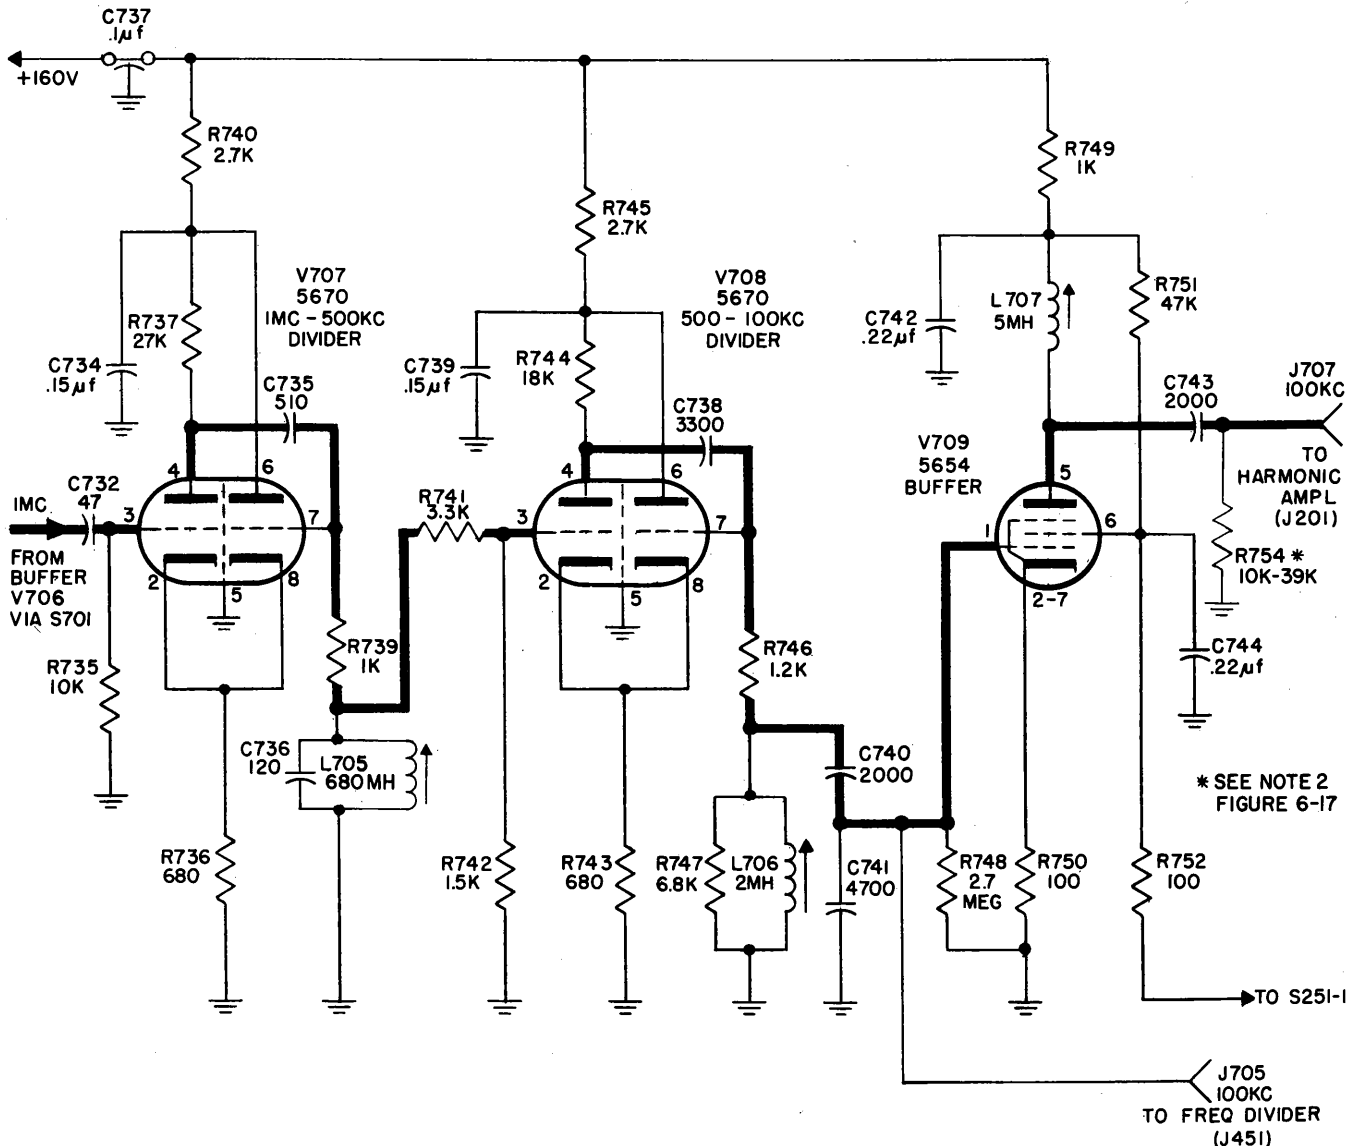

Figure 4-40. Frequency Dividers V707 and V708 and Buffer V709, Simplified Schematic Diagram
c. **FREQUENCY DIVIDERS V707 and V708, BUFFER V709.** (See figure 4-40.)—The frequency dividers derive a 100 kc signal from the 1 mc input from the crystal oscillator-amplifier circuit. V707 makes the first division to 500 kc, and V708 the second division to 100